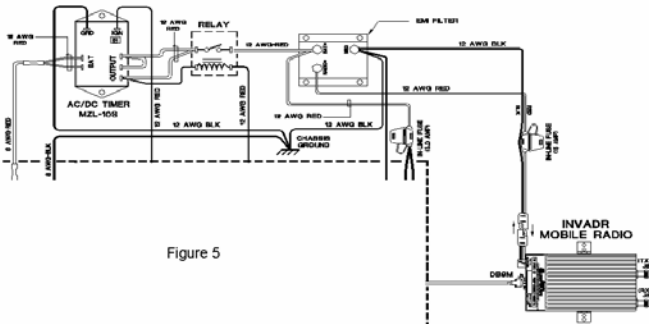

Figure 5
Step 1 Secure the EMI Filter in the trunk compartment of the vehicle (see Fig. 5) near radio mounting location.